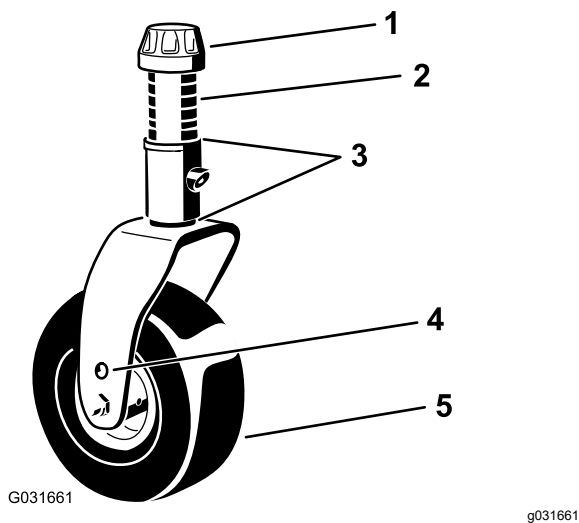

Figure 19
4. Using the supplied caster-cap wrench, loosen the tensioning cap and remove it from the caster-spindle shaft and slide the caster shaft out of the caster arm (Figure 19).
7. Install the shims (as originally installed) and the remaining spacers onto the shaft (Figure 19).
8. Install the tensioning cap and tighten it with the supplied caster-cap wrench to secure the assembly (Figure 19).